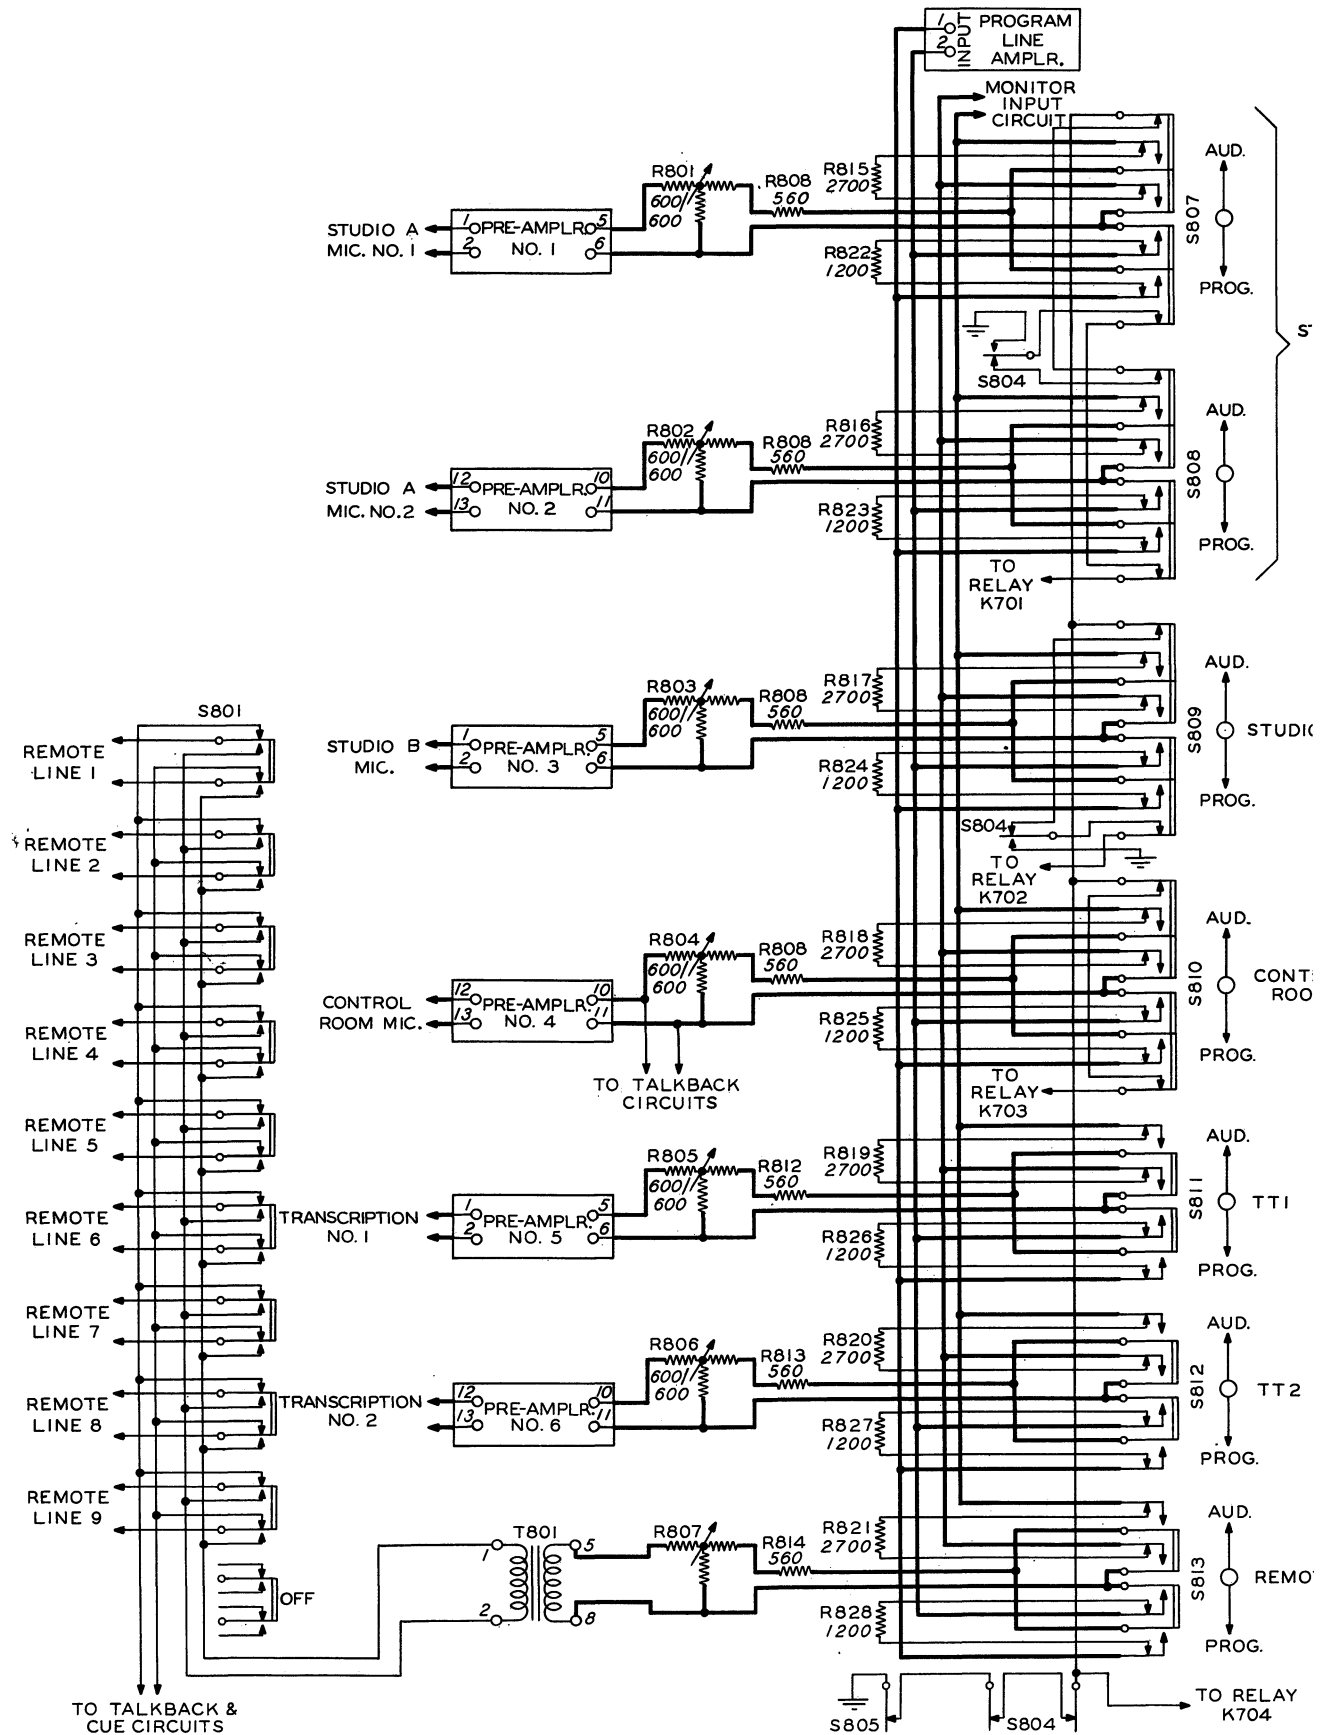

Figure 2-5 Mixer Circuits
(6) MIXER CIRCUITS. - Refer to figure 2-5. Seven independent input circuits are incorporated in the console. Four are low level microphone inputs (approx. -60 db) each having an individual two stage per mixer amplifier. Two are transcription inputs and are connected through repeat coils to the mixer. A line level input circuit, which operates through a repeat coil is also provided for the remote lines. Any one of nine remote lines may be selected by switch S801. The mixing circuit is so designed that correct impedance relations are maintained at all times, and the volume levels in the various circuits are independent of mixing and switching operations in other circuits. Attenuators R802 through R807 control the input levels to the mixing circuits. Each is a constant impedance type using a 600 ohm/600 ohm T network configuration. Resistors R808 through R813 are series line pad resistors. The key switches S807 through S813 will connect any of the input circuits to the PROGRAM CHANNEL or the AUDITION CHANNEL. When the key switch is in the center position the input circuit is connected across a terminating resistance. Resistors R815 through R828 serve as terminating resistors for the input circuits not in use. Contacts on the key switches complete a 12 volt d-c circuit to operate the speaker control relays K701, K702, K703 and K704. Mixer controls and terminations introduce approximately 14 db loss. The studio signal lights are also operated from the same relays. The talkback control switches S804 and S805 are interlocked with the speaker control relay circuits to prevent program interruption.